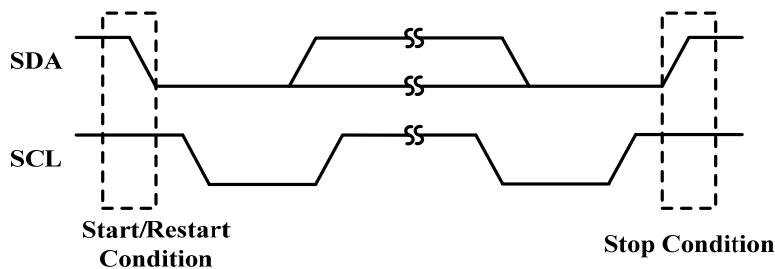

Figure 3 START and STOP Conditions
SDA operates as both an input and an open-drain output. A pull up resistor, typically 4.7k Ω , is required on SDA. SCL operates only as an input. A pull up resistor, typically 4.7k Ω , is required on SCL if there are multiple masters on the 2-wire interface, or if the master in a single-master system has an open-drain SCL output. Each transmission consists of a START condition sent by a master, followed by the SN7328's 7-bit slave addresses plus R/W bits, 1 or more data bytes, and finally a STOP condition (see Figure 3).
Both SCL and SDA remain high when the interface is not busy. A master signals the beginning of a transmission with a START (S) condition by transitioning SDA from high to low while SCL is high. When the master has finished communicating with the slave, the master issues a STOP (P) condition by transitioning SDA from low to high while SCL is high. The bus is then free for another transmission (see Figure 3).